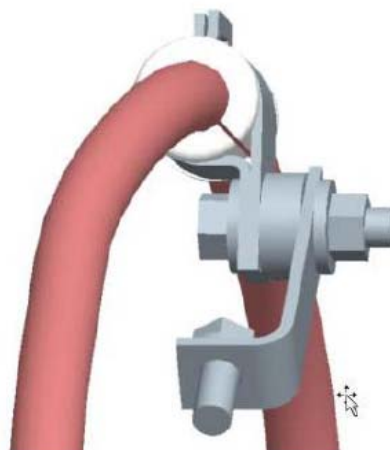

Figure 1. Note the grommet opening is correctly aligned with the joint in the P-clip
- The opening in each grommet is aligned with the joint in the P-clip as shown in Figure 1 below.